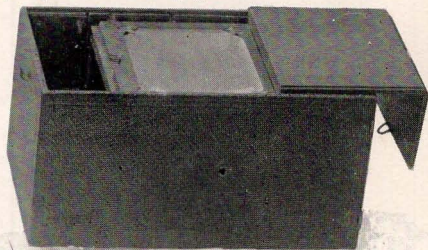

Fig. 2.
X. Open second section of door in side of Kodak, as shown in Fig. 2, and take out the ground glass frame.